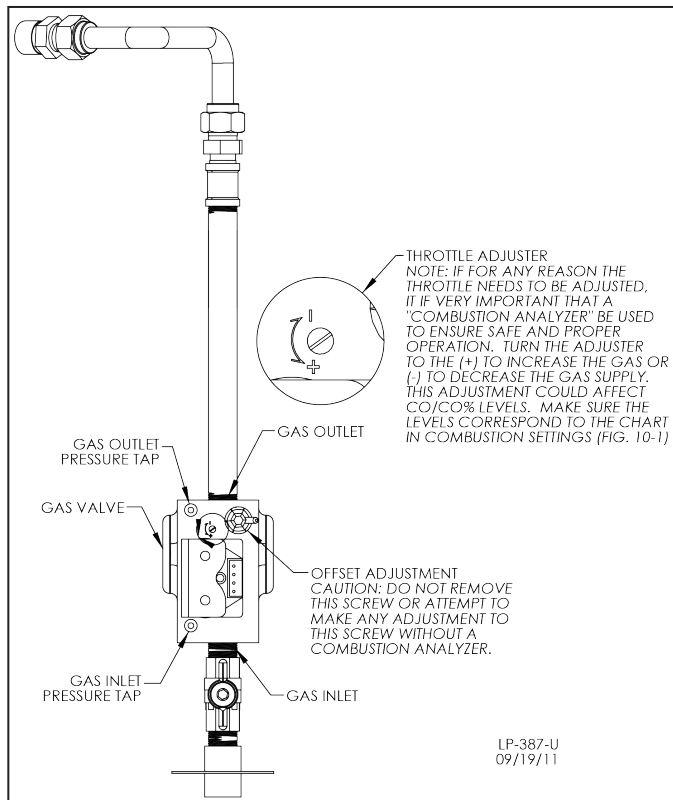

Figure 35 - Gas Valve
2. Loosen the pressure tap with a small screwdriver. Refer to Figure 35 for location.
3. Each unit is equipped with a needle valve that will accept a 5/16 ID hose to connect to a digital manometer or liquid gauge to measure incoming pressure from 0-35" w.c. See Figure 35.